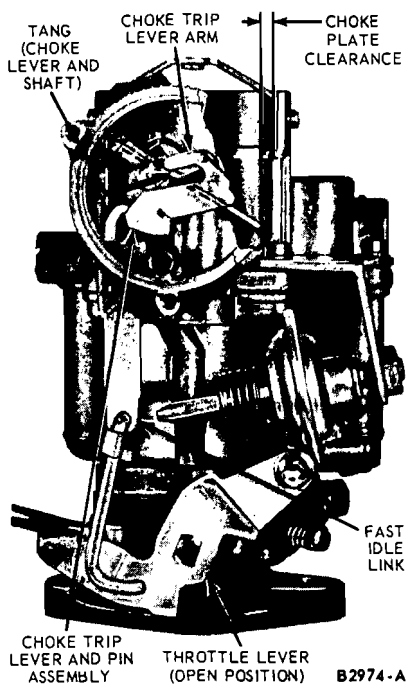

FIG. 15—Choke Plate Clearance (Pull-Down) Adjustment—Carter Model YF 1-V
3. Hold the throttle plate fully open and close the choke plate as far as possible without forcing it. Use a drill of the proper diameter to check the clearance between the choke plate and air horn (Fig. 15).